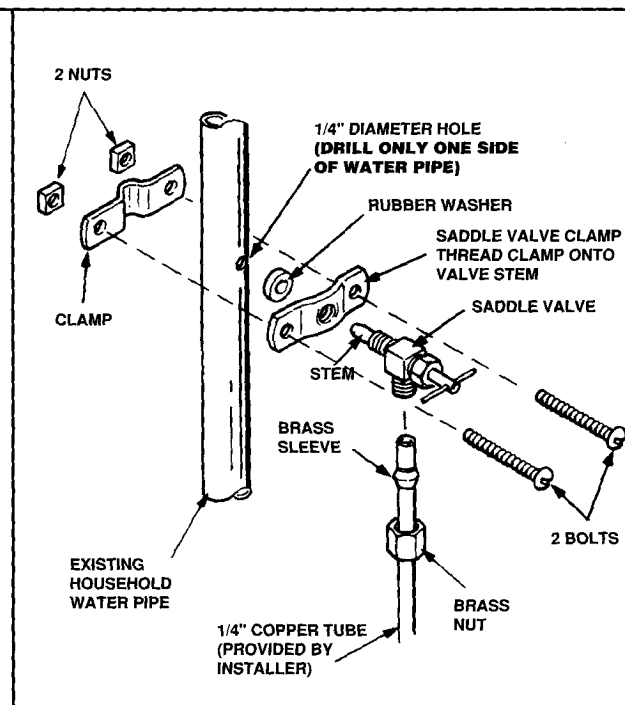

Figure 28
- f. Attach saddle valve to water pipe using parts illustrated in Figure 28. Thread valve to saddle valve clamp. Make sure rubber washer is in place between saddle valve clamp and water pipe. Also note saddle valve clamp must be threaded onto saddle valve stem before clamping saddle valve to water pipe. **NOTE: Valve will not thread completely into saddle valve clamp because of tapered threads.** Tighten two attaching bolts and nuts, in increments so spacing is equal between both sides of clamps. **Do not overtighten.**
- g. Slip brass nut and brass sleeve onto 1/4 inch copper tubing as shown in Figure 28.